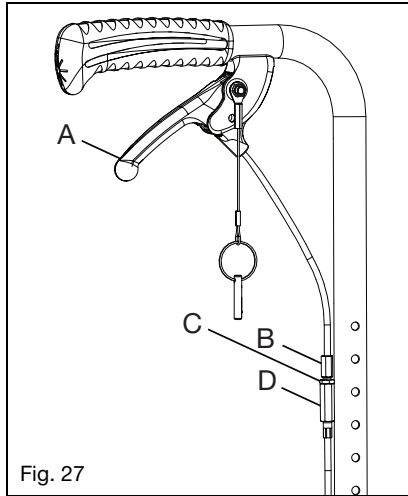

Fig. 27
4. Pull the red handle (Fig. 27:B), found under the seat, until the upper rear cross brace is straight and the red lockout tab (Fig. 27:A) springs upward and clicks into place.
5. Confirm red lockout tab (Fig. 27:A) is in place to prevent the crossbrace from folding inward.